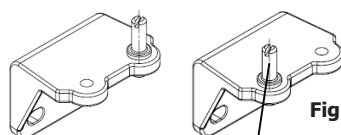

Fig. 4
5. Unscrew pins from both hinges and transfer to threaded hole on opposite side. See Fig. 4. Re-install bottom hinge in LH corner of cabinet using same three screws removed in Step 4.